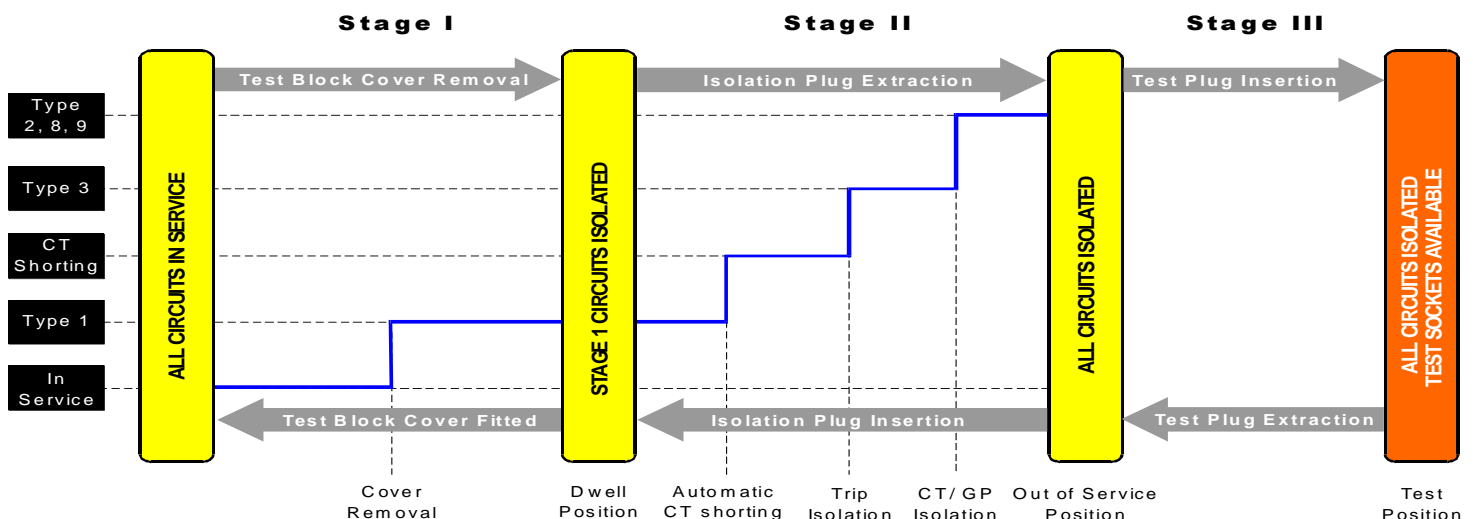

Figure 1: Timing diagram for sequential circuit isolation and CT shorting
Changing the 4M402 Test Block from the normal service condition occurs in three (3) stages as depicted in the timing diagram figure 1.